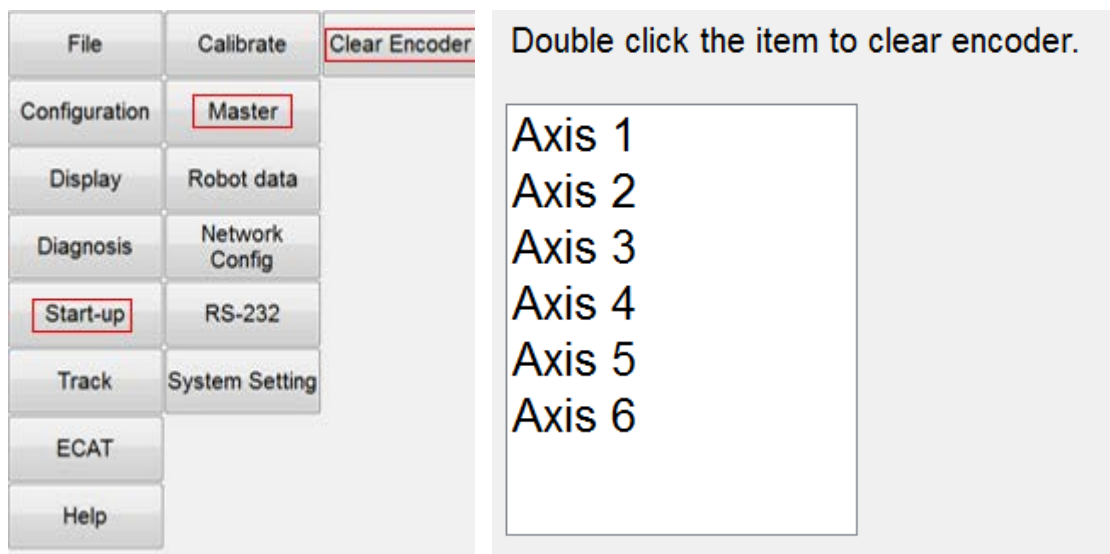

Figure 4-8 Clear encoder by HRSS
Step3: Click Main Menu>>Start-up>>Master>>Clear Encoder. (As shown in Figure 4-8)
Step4: Double click the -axis to clear encoder. (As shown in Figure 4-8)